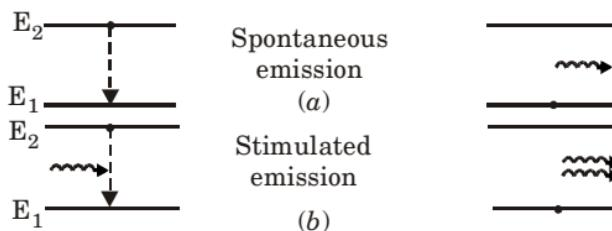

Fig. 11.
8. From Fig. 11 it is observed that in spontaneous emission atom from higher energy state returns to lower energy state in an entirely random manner whereas in stimulated emission, a photon having an energy equal to $(E_2 - E_1)$ interacts with the atom in the higher energy state causing it to return to the lower state with the creation of a second photon.